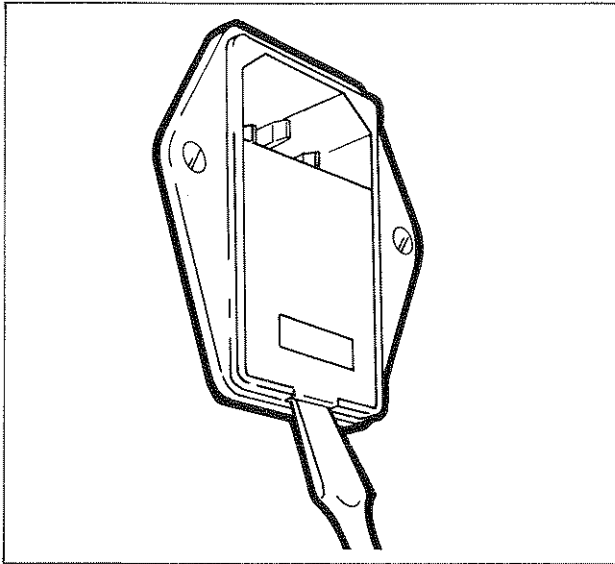

Fig. 2.1 The voltage selector cover being released with a screwdriver.
Ensure that the correct voltage setting is selected on the pulse generators before a connection to the mains is made. On delivery, a generator may be set to either 100 V, 120 V or 240 V, as indicated by the mains voltage selector, located behind a cover on the rear panel, see Fig. 2.1.
- Release the voltage selector cover with a screwdriver, see Fig. 2.1.
Each pulse generator is protected by a fuse located in the voltage selector unit on the rear panel, see Fig. 2.1.